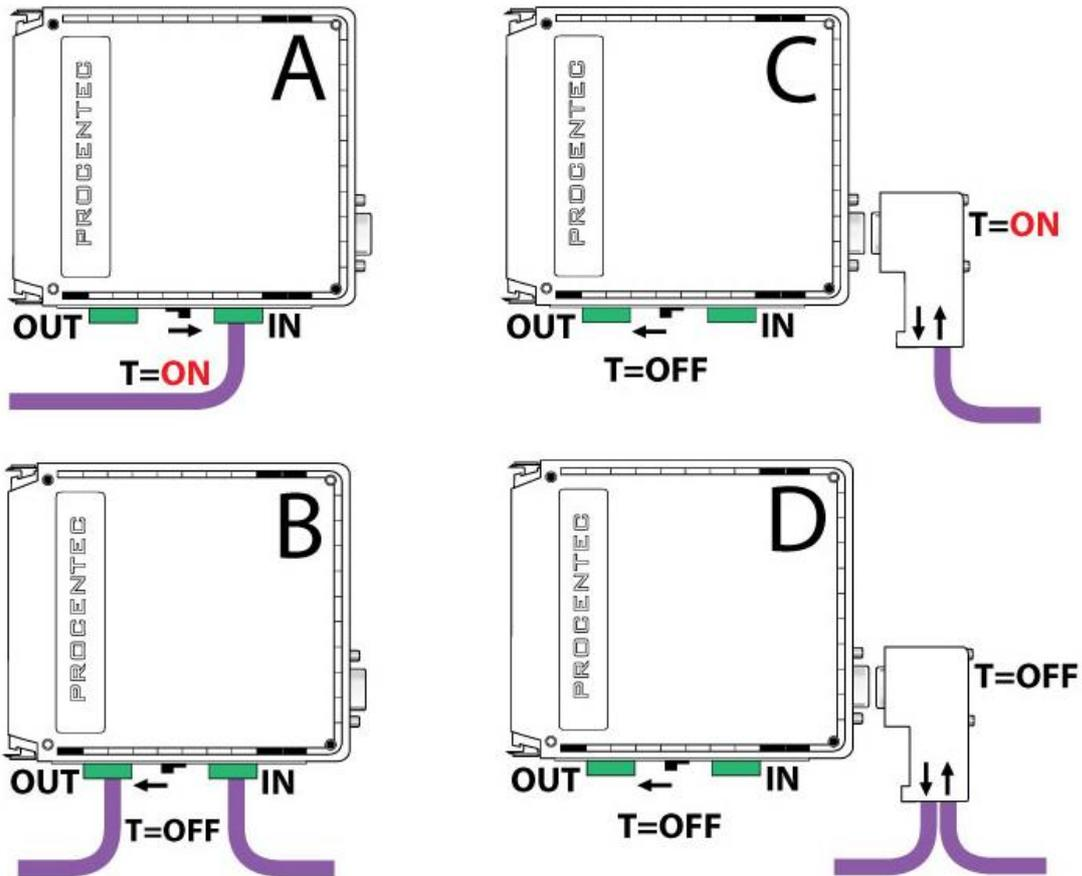

Fig. 25 - Repeater connection topologies (old modules only)
**Fig. 25** illustrates 4 recommended connection topologies for the repeater modules.
Always use the 'IN' connector when the repeater module is the first or last on the segment. The termination should be set to ON (see **Fig. 25 - configuration A**).
Only in configuration A of **Fig. 25** the on-board termination should be set to ON. In configurations B and D the repeater module is in the middle of the segment (OFF).
When the DB9 connector is utilized and located at the end of the segment, it is recommended to use the termination on the DB9 connector and NOT on the repeater module (see **Fig. 25 - configuration C**)2